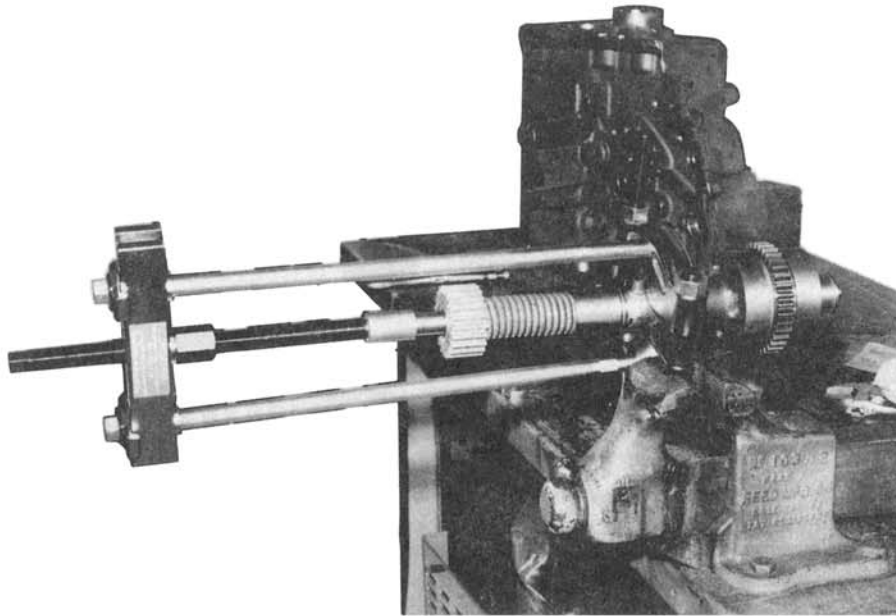

FIGURE 29
3.6 Disassembly of #9 Shaft Assembly (PTO Clutch). See Figure 29.